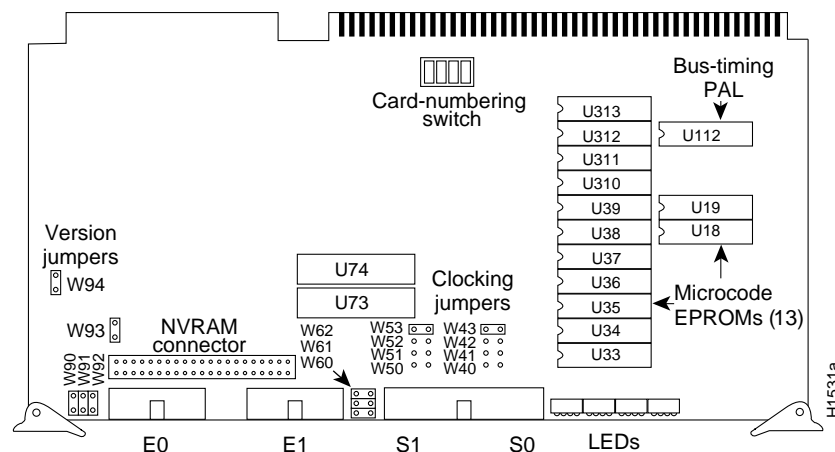

Figure 13 CSC-MCI Card—Component-Side View
The bus-timing PAL on the CSC-MCI is in socket U112, which is located on the right rear portion of the card. (See Figure 13.) If the PAL is already Part Number 17-0675 (or later), the CSC-MCI card needs no further modification. If the PAL is Part Number 13/107A or 17-0038, use the following procedure to remove the CSC-MCI from the card cage and replace the PAL:.
Step 1 Disconnect the serial and/or Ethernet interface cables from the front of the CSC-MCI. (See Figure 13.)
- Step 2** Remove the card. Use your thumbs to pull the ejector tabs out and away from the card edge to loosen it, and pull the card out of its slot. Place the removed card on an antistatic mat or antistatic foam. (Refer to Figure 13.)